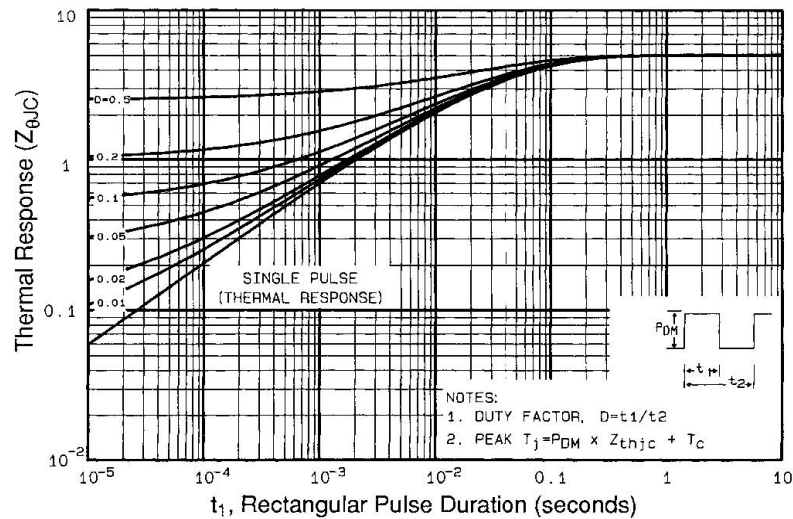

Fig 11. Maximum Effective Transient Thermal Impedance, Junction-to-Case
- ① Repetitive rating; pulse width limited by max. junction temperature (See Figure 11)